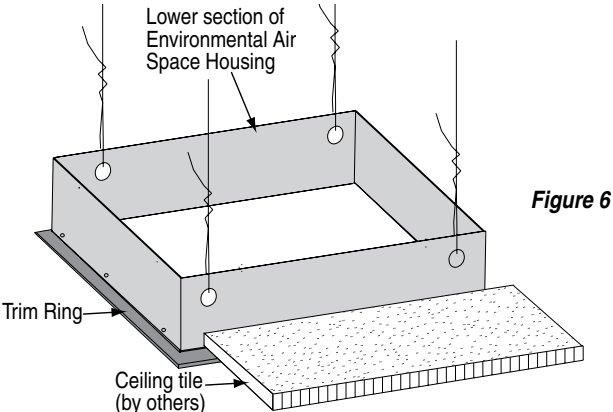

Figure 6
- The Scissor Lift SLX is available with a Ceiling Trim Kit, which consists of the lower section of the Environmental Air Space Housing and the optional closure panel (see Fig. 6).
- ① Install Scissor Lift SLX as previously described in these instructions.
- ② Install bottom section of Environmental Air Space Housing and Trim Ring in opening. This can be accomplished by suspending with wire, or by mounting directly to the ceiling joists (if space permits).
- ③ Install projector and attach optional ceiling closure to Scissor Lift SLX, according to the instructions included in this document.